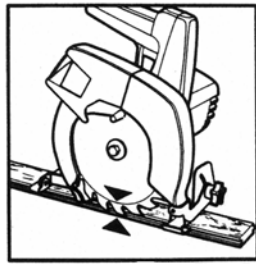

Figure 7-1
- A. Set a circular saw to the depth of the thickness of the board to be removed. Make one cut inset 3/8" from groove side running from end to end on the board to be removed. Figure 7-1.